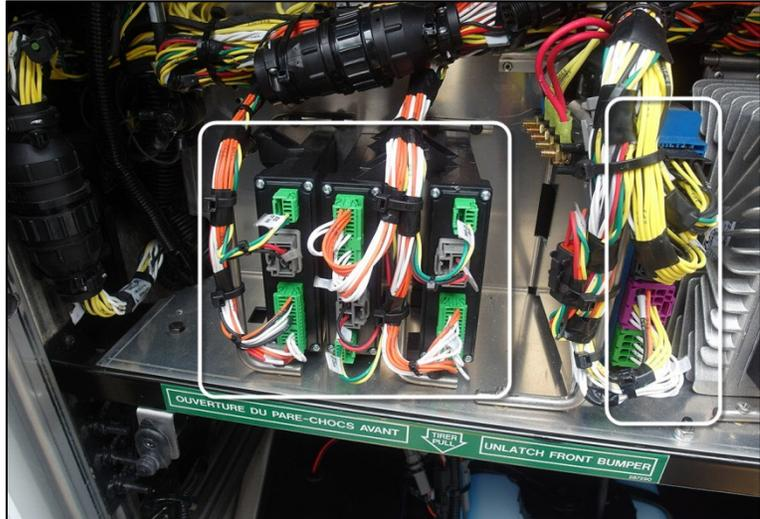

FIGURE 12: I/OA AND ABS MODULES
8. Create working space in the fore section of the compartment by removing three I/OA modules and the ABS module. (Figure 12)